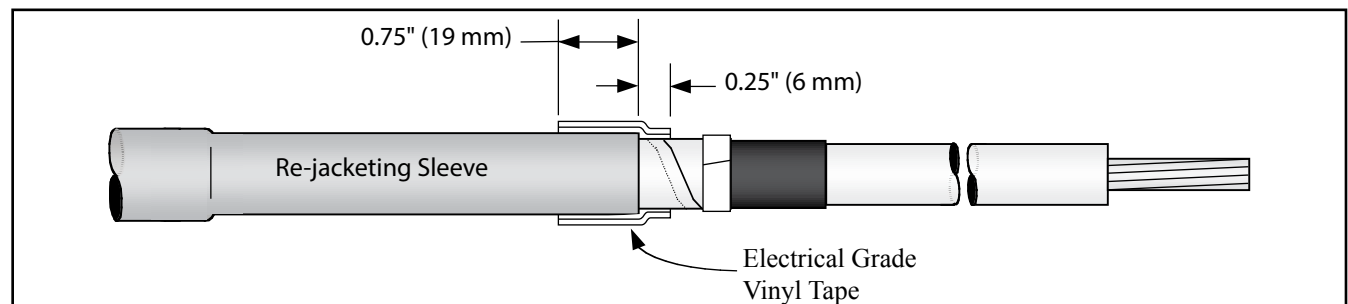

Figure 20
5.3 Secure re-jacketing sleeve with two half-lapped layers of electrical grade vinyl tape (*Figure 20*). Start taping 0.75" (19 mm) over re-jacketing sleeve, extend 0.25" (6 mm) over cable metallic shield and return to starting point.